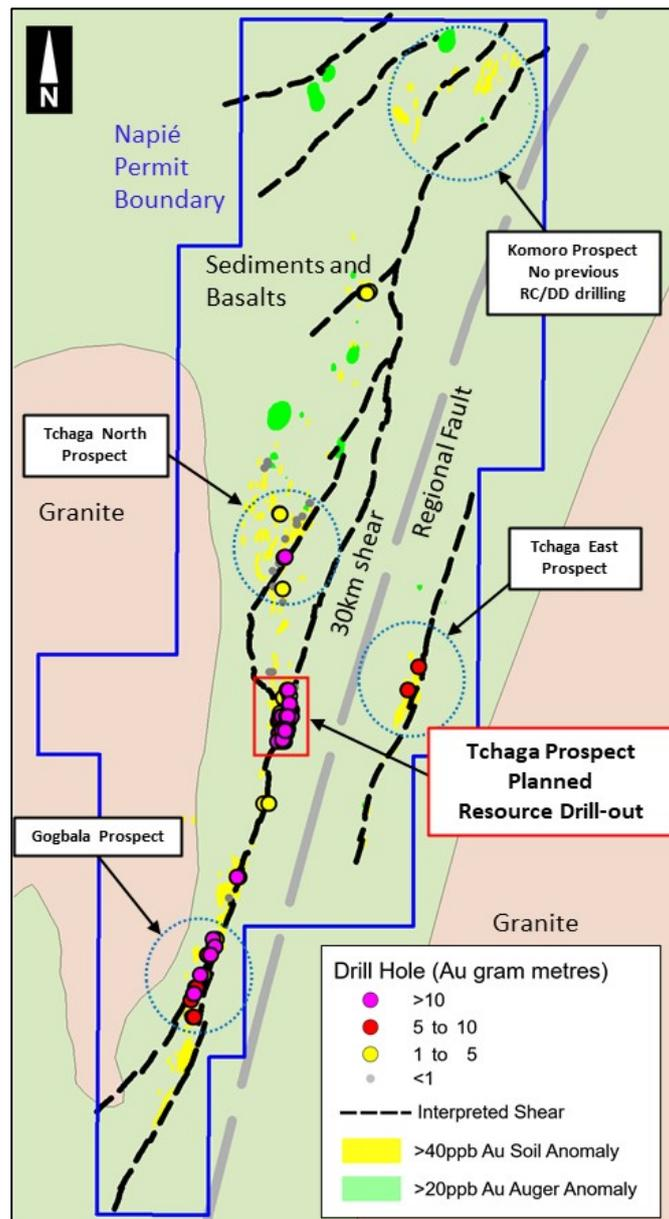

Figure 1: Napié Project with Tchaga Prospect in red rectangle
Mako Gold Limited (“Mako” or “the Company”; ASX:MKG) is pleased to advise that it has received its first assay results from the ongoing 10,000 metre reverse circulation (RC) and diamond drilling (DD) program on the Tchaga Prospect at the Company’s 224km² Napié Project in Côte d’Ivoire. The Tchaga Prospect is associated with a +40ppb gold soil anomaly coincident with a +30km-long shear zone, thought to be a major control for gold mineralisation (Figure 1).